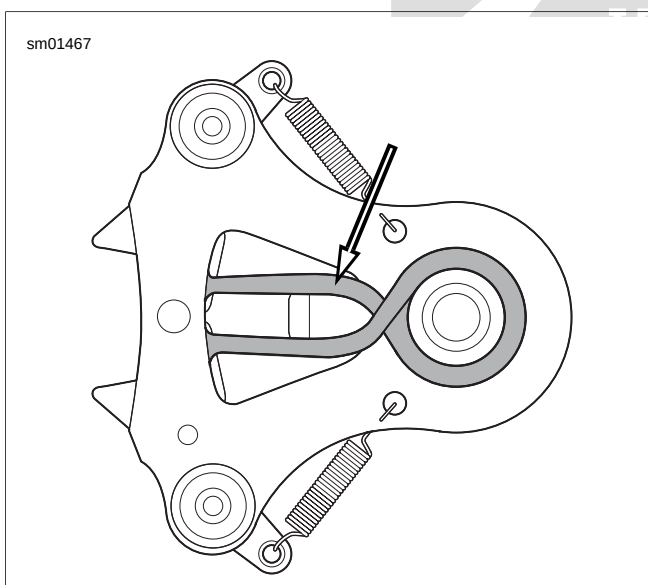

Figure 5-103. Shifter Shaft Return Spring (Correctly Installed)
1. See Figure 5-103. Correctly install shifter return spring onto the reverse side of the shifter shaft assembly before placing shaft in left crankcase half.